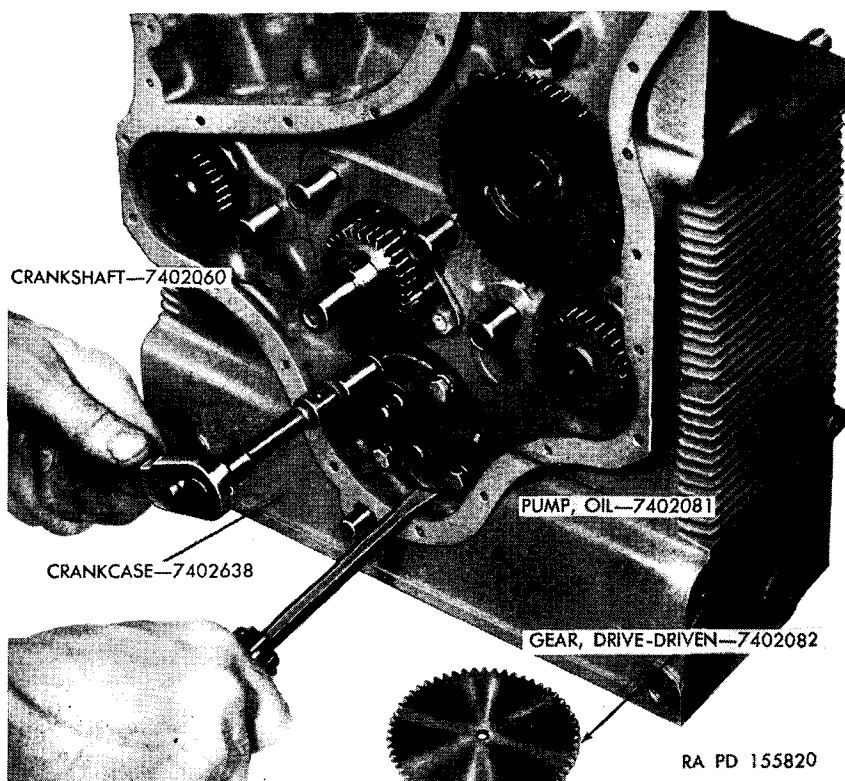

Figure 100. Attaching oil pump to crankcase.
- a. Position oil pump in place at front of crankcase (fig. 100).
- c. To obtain initial lash between oil-pump drive gear and crankshaft gear, raise oil pump with screwdriver while tightening four bolts (fig. 100).